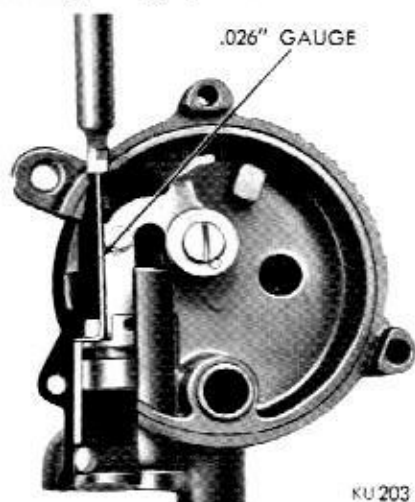

Fig. 15—Choke Piston Indexing
- (1) Remove choke housing retainer ring, heat tube cap and choke coil housing, baffle plate and gasket.
- (2) Remove throttle return spring so throttle can be set to a mid position.
- (3) Let choke blade go wide open.
- (4) Insert an .026 inch wire gauge* into choke piston slot so that hook on the end goes into slot in cylinder (Fig. 15).
- (5) Push on choke piston lever thermostat tang trapping the wire gauge between piston and cylinder slots with linkage hanging free.